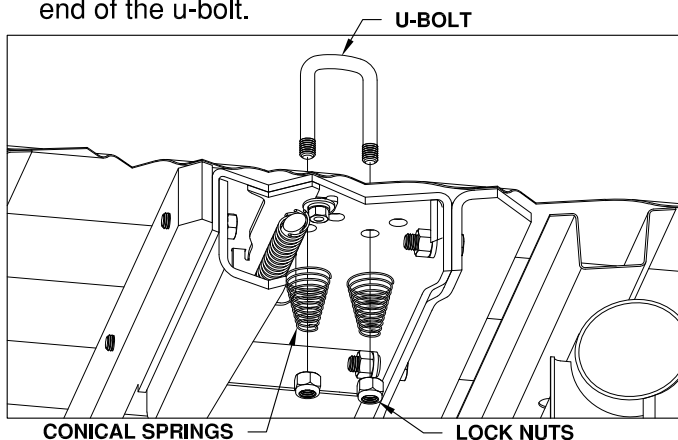

Figure G3: Cut away view of bed and center section
3. **Add springs.** Place a conical spring over each leg of the u-bolts and secure with a  $\frac{1}{2}$ " lock nut, see Figure G3. Tighten the lock nut until the nut is flush with the end of the u-bolt.